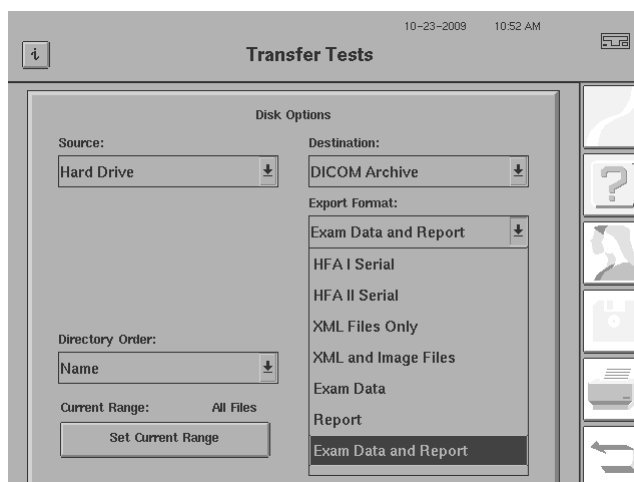

Figure 14.49 Transfer Tests Screen (with Export Format: drop-down box open)
- 5 Select the Export Format drop-down box (Figure 14.49). DICOM Archive available selections in this drop-down box are: